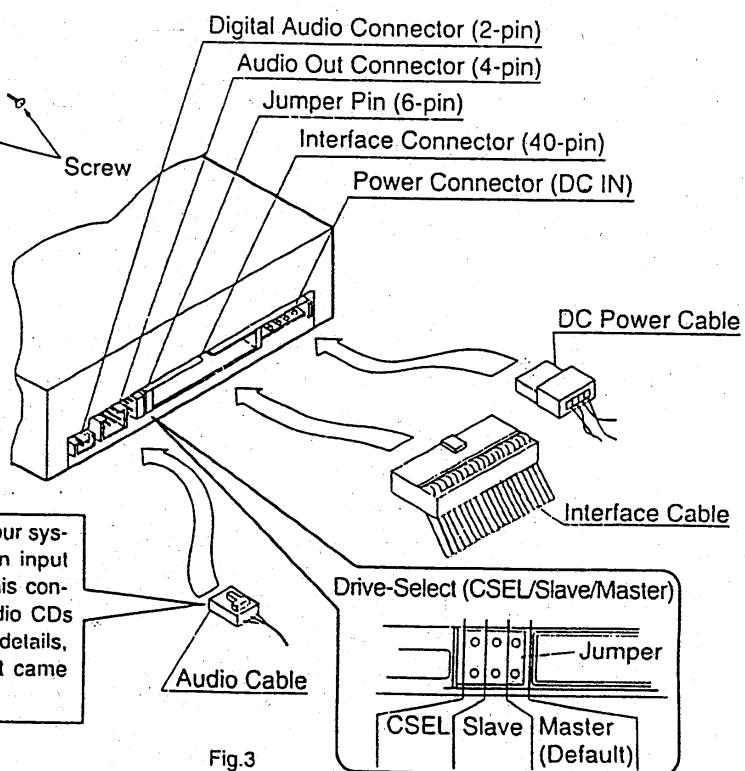

Fig.3
- B. Check jumper for proper ID. master. (Fig. 3)
- E. Connect the DC power cable, interface (See III) INTERFACE BOARD first) and audio cable to the back of the drive. (Fig. 3)